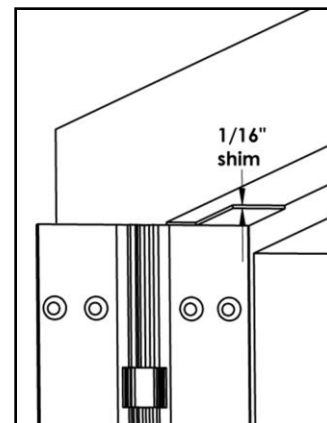

Fig. 1
- With the hinge open, place the frame leaf against the frame making certain that the alignment rib is flush against the face of the frame along its entire length. Position the top of the hinge 1/16" (1.6mm)(1/8" maximum) below the header. **Note: A 1/16" shim is recommended due to initial settling of the bearings.** (See Fig. 1)